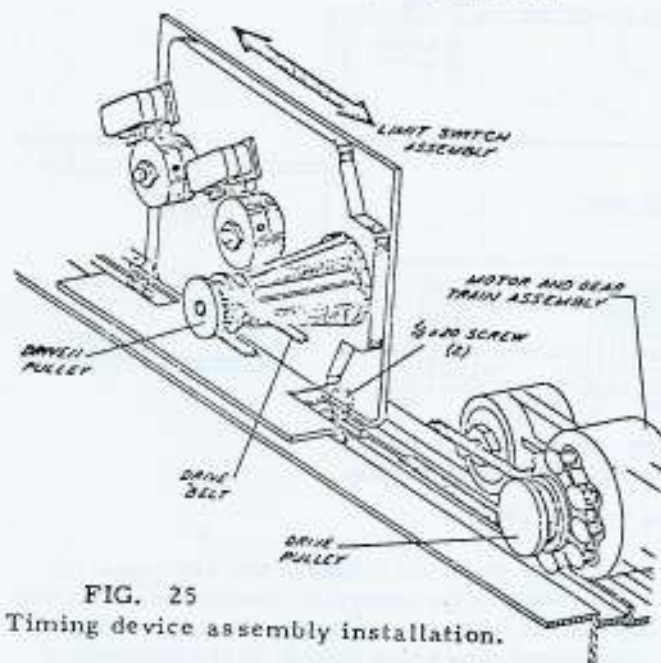

FIG. 25
1. Install the Timing Device Assembly in the header, as shown in FIG. 25. Use two